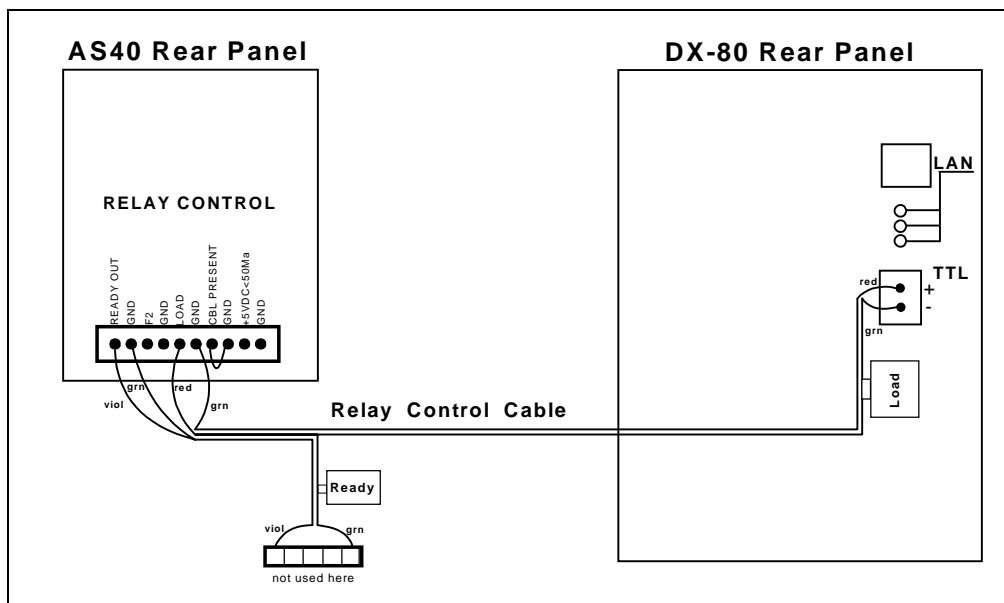

Figure B-6. AS40 Autosampler Connection
Follow the steps below to connect the TTL output connector on the DX-80 rear panel to an AS40 Relay Control cable (see Figure B-6).
2. Plug the 2-pin connector from the pair of wires labeled **LOAD** on the Relay Control cable into the **TTL Output** connector on the DX-80 rear panel (see Figure B-6).